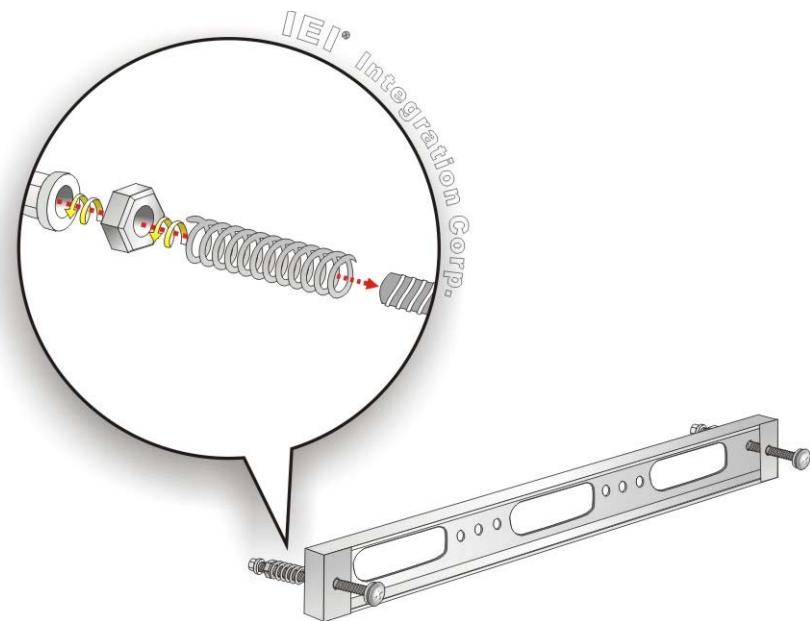

Figure 3-23: Rack Mounting Kit Installation
Step 2: Insert a M5*50 screw into the screw hole on the side of the rack mounting bracket. Then, install the following components onto the screw in sequence. See **Figure 3-23**.